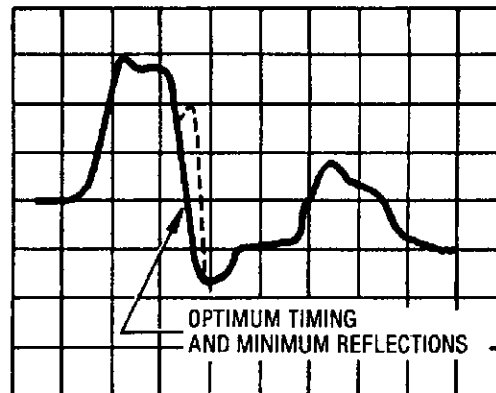

Figure 5-47. Series Pulse Width Waveform
10. Adjust "SPW" A1A4R25 to obtain the waveform shown in figure 5-47.